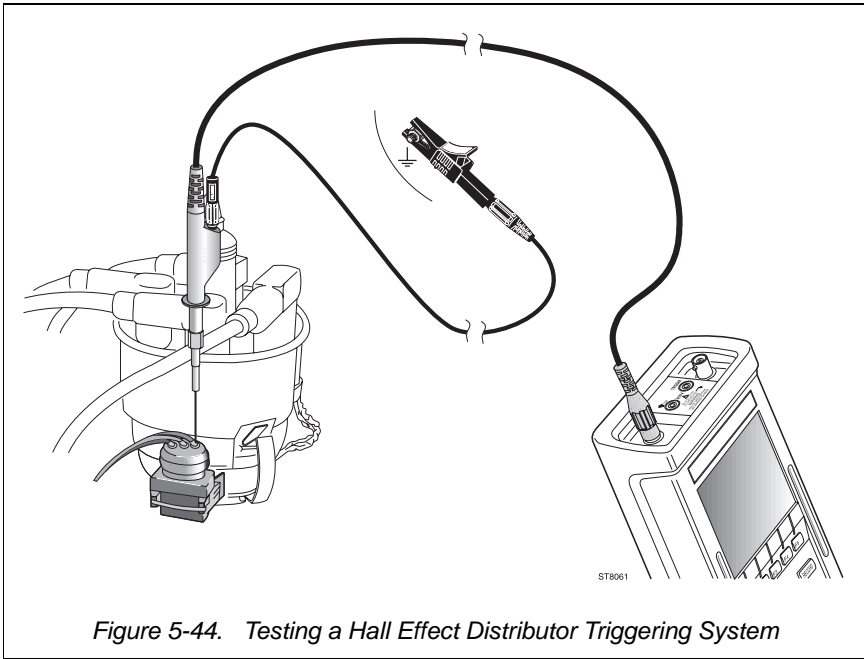

Figure 5-44. Testing a Hall Effect Distributor Triggering System
- ③ Connect the test leads as displayed by the test tool's Connection Help and shown in Figure 5-44.
- ④   Starts the distributor triggering test.